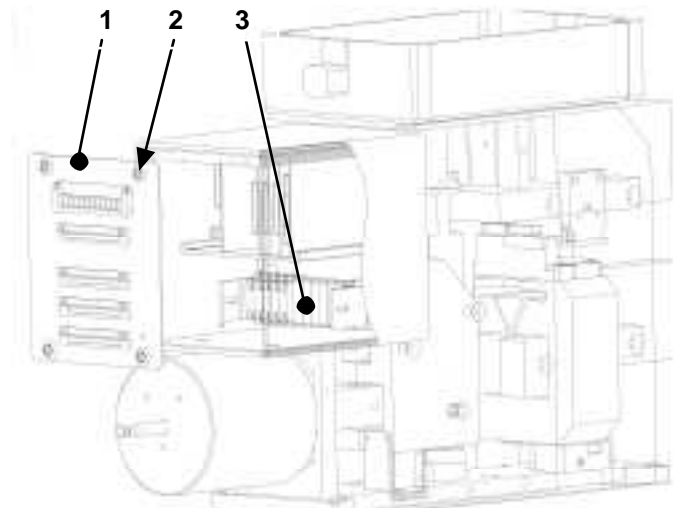

Fig. 56-1 Control box with auxiliary switch block
- [Fig. 56-1] Loosen four screws (2). Move the front cover (1) slowly down. The auxiliary switch block (3) is accessible now, in the bottom of the compartment.
- [Fig. 56-1] Check the correct signalization of all switches at the connecting plug terminations X4, X5! If necessary re-adjust the switches from other side.
- Now tighten solid the screws (4).
- [Fig. 56-1] Close the control box with front cover (1) by fixing the four screws (2). Pay attention, that no cables will be pinched between box and front plate.